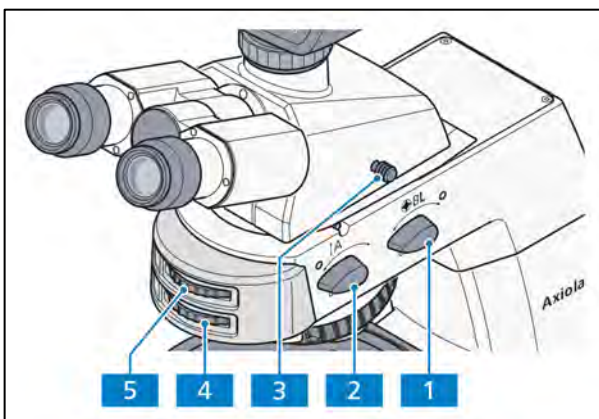

Fig. 4-11 Axiolab 5 for transmitted light conoscopy
- Swivel the analyzer into the beam path (**on** position) with rotary knob **A** (Fig. 4-11/2).
- The polarization direction can be changed using the setting wheel (Fig. 4-11/4) of the analyzer.
- Switch on Bertrand lens **BL** (Fig. 4-11/1) (**On** position). The axial figure will appear in the field of view.
- Bring the axial figure into focus using the setting wheel (Fig. 4-11/5).
(4) Evaluation